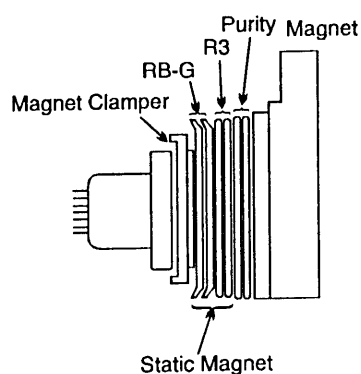

Fig. 19
M. CONVERGENCE ADJUSTMENT (SEE FIG.19) (IF NECESSARY)